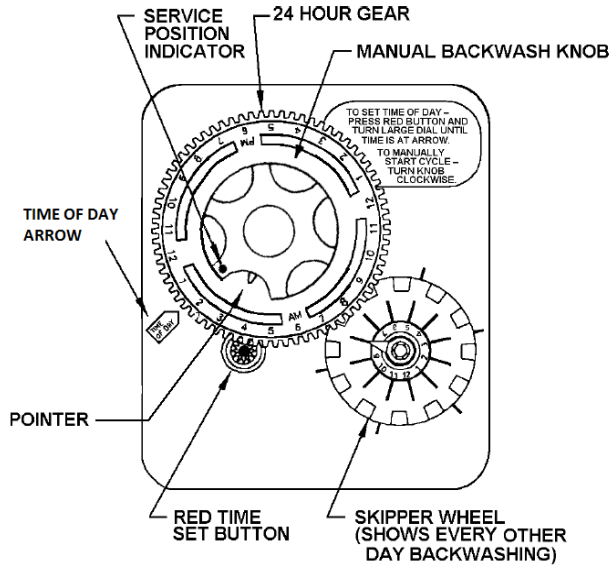

FIGURE 4a: Timer in Service Position
FB ONLY: advance the control valve to the “Service” position (Figure 4a, Page 9) by turning the Manual Backwash Knob clockwise.
STEP 18: **FB ONLY:** Set the current time of day by depressing the red Time Set Button and turning the 24 Hour Gear to the desired time (note AM and PM). Refer to Figure 4a, Page 9.
2. Locate three screws (Fig. 4b) behind the Manual Backwash Knob by pushing the red Time Set Button (Fig. 4a) and rotating the 24 Hour Gear (Fig. 4a) until each screw appears in the cut out of the Manual Backwash Knob.
4. Continue depressing the red Time Set Button and rotate the 24 Hour Gear to expose the Regeneration Time Pointer (Fig. 4a) in the cut out of the Manual Backwash Knob. Keep the Regeneration Time Pointer visible in the cut out while rotating only the time plate until the desired time (note AM or PM) is aligned with the Regeneration Time Pointer.
- 17) Manually advance the control valve to the "Service" position (Figure 4a, Page 9). Check for and resolve any leaks in the unit or connected plumbing.